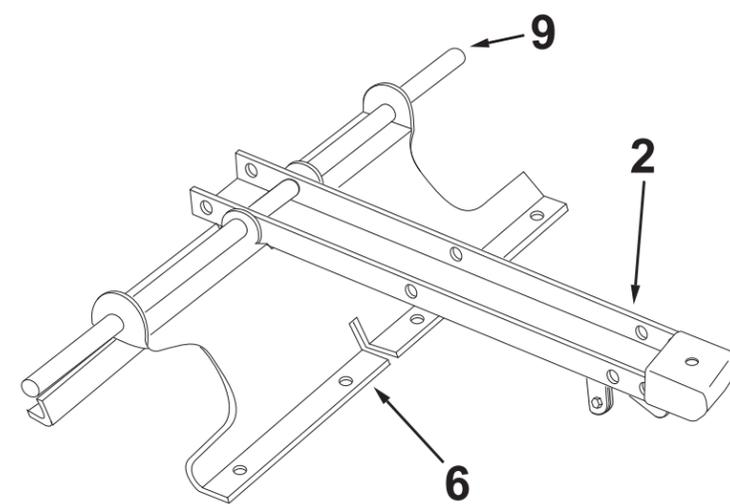

Figure 4
STEP 1 (SEE FIGURE 4): Lay rear tongue (2), open side facing up, onto wheel support (6).
STEP 2 (SEE FIGURE 4): Insert axle (9) through both sides of the wheel support (6) and the rear tongue (2).